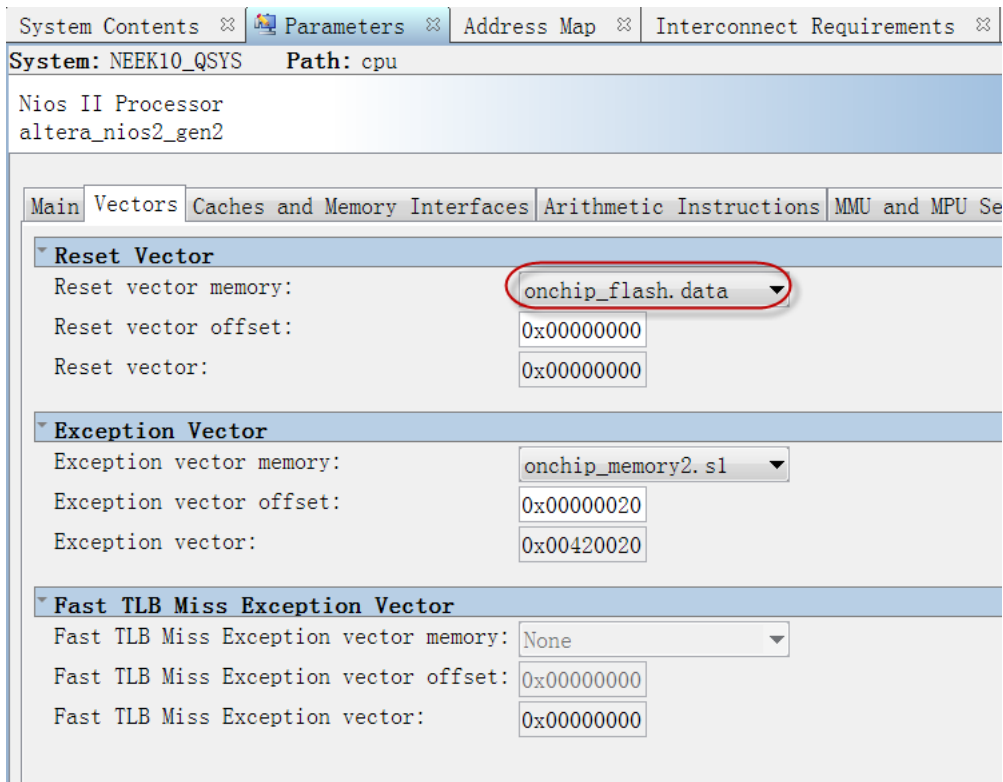

Figure 3-4 Change Reset Vector
3. Double click **cpu** to edit the Nios II Processor component. Change Reset vector to onchip_flash.data as shown in **Figure 3-4**.